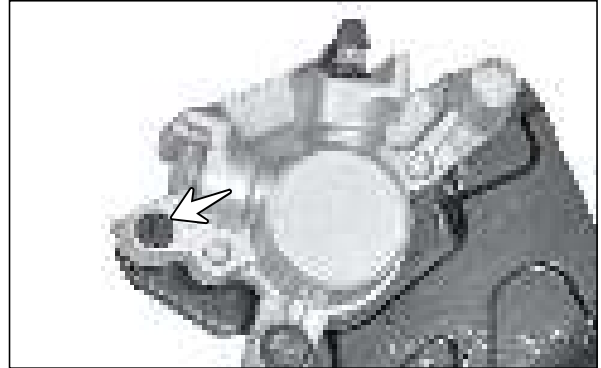

Fig. 6.119
- Remove the plug pin from the caliper housing. (Fig. 6.119)